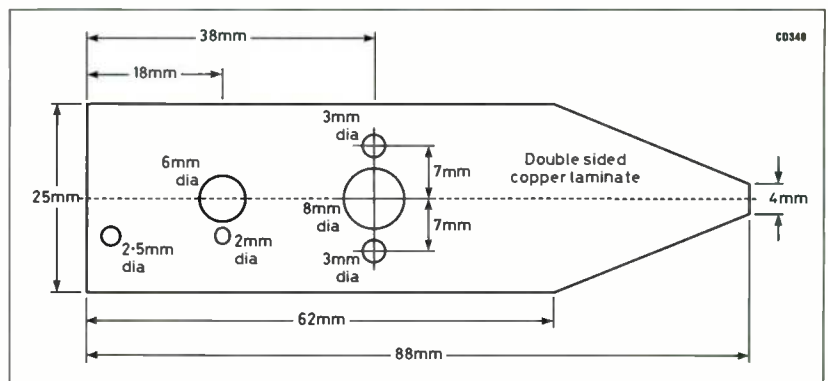

Fig 8.2. Cutting and drilling detail of the board for the 50MHz wavemeter
1. Cut the base board from a piece of copper laminate – preferably double-sided, although single-sided board can be used. In the latter case the components must be mounted on the copper side. The dimensions are given in Fig 8.2 and, apart from the holes for VC1,